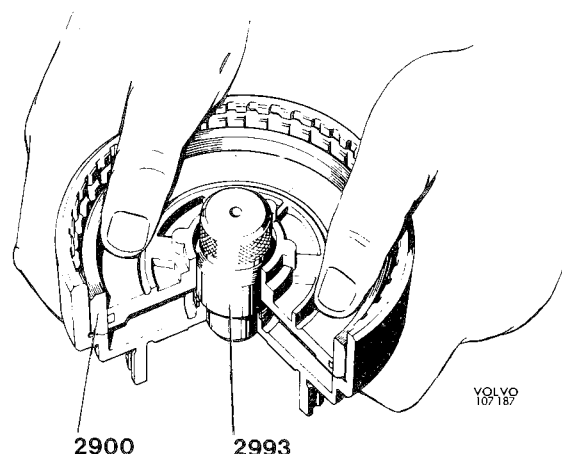

Fig. 4-107. Installing piston for front clutch
16. Place the guide 2993 in the clutch housing. Fit the sealing ring on the piston and the O-ring in the drum. Place the piston in installing ring 2900. Press it down until it is level with the lower edge of the ring. Place the piston over the guide in the clutch housing as shown in Fig. 4-107. Take hold of the housing with the hands and press down the piston with the thumbs. Remove the tools. Fit the spring with the dished side facing rear. Put on the snap ring.